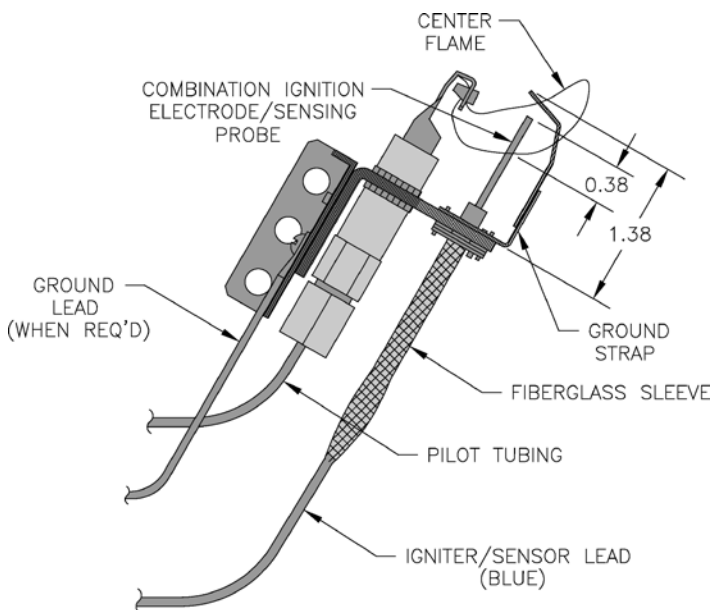

Figure 7: Pilot Burner Flame, Honeywell Q3481
4. Check pilot burner flame. See Figure 7.